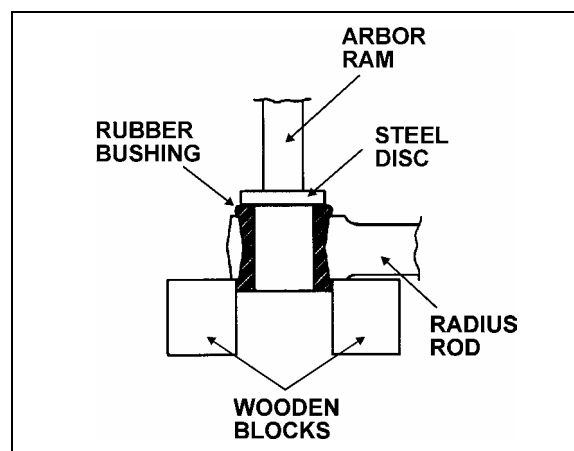

FIGURE 7: RADIUS ROD BUSHING REMOVAL 16011
1. Safely support the radius rod as shown in figure 7.
- Place a flat steel disc, slightly smaller than the outside diameter of the bushing (Fig. 7).